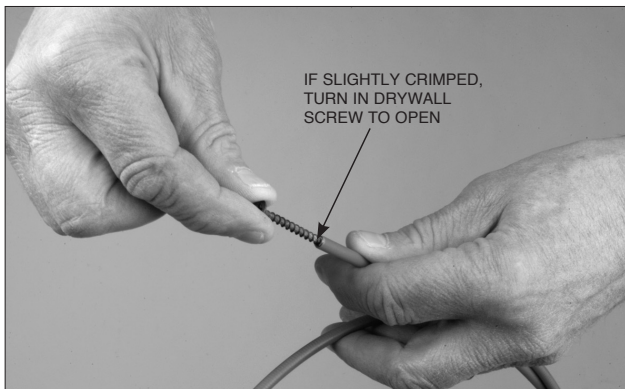

FIGURE 4-39
1. Layout the flexible conduit and secure it in place. **Note:** If inner liner is crimped, turn a drywall screw into the end to open it. See Figure 4-39.